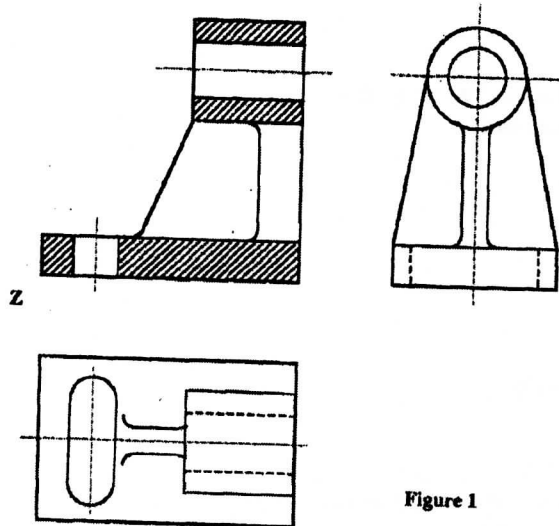

Figure 1
11. Figure 1 shows three views of an aircraft bracket drawn in first angle projection. Draw in good proportion an isometric projection of the part taking Z as the lowest point. (15 marks)